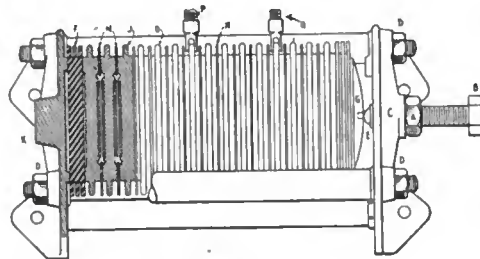

Figure 96
- (3) Figure 96. To show in cross section the construction of a multi-plate gap (so-called quenched gap).
Figure 96 shows in partial cross-section the construction of the multi-plate spark discharger. A number of copper plates, J, with the cooling flanges, O, are separated by insulating gaskets or washers, N. A spark surface of one or two inches in diameter is provided at the center of each plate and a groove surrounds the sparking surface so that the insulating gasket does not come in contact with the spark discharge.
The multi-plate gap of figure 96 is adjusted for clear tones principally by the generator field rheostat, the voltage being adjusted until a uniform discharge is secured. In addition, the note is effected by the number of gaps in use. The final adjustment of the note of this gap must be made after the transmitter has been tuned to the standard wave lengths.